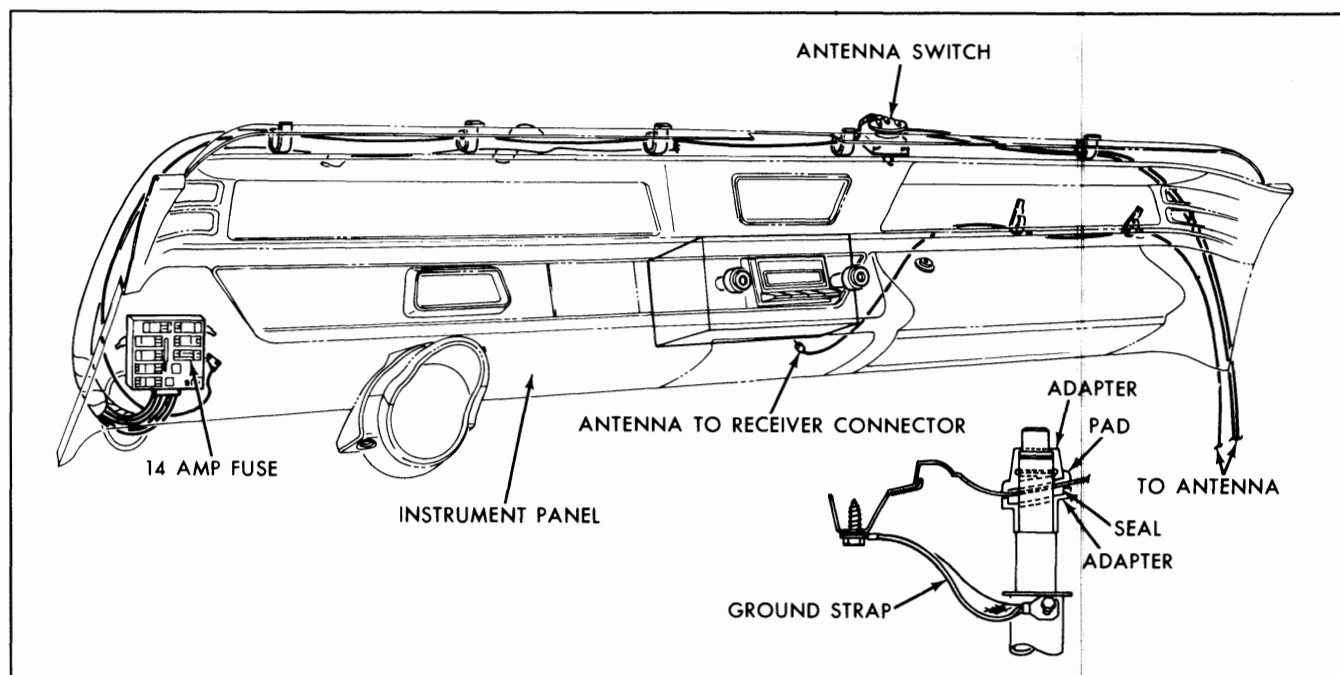

Fig. 12-17 Electric Antenna—Power and Ground Leads
3. Disconnect ground wire, power wires and lead-in (Fig. 12-17).